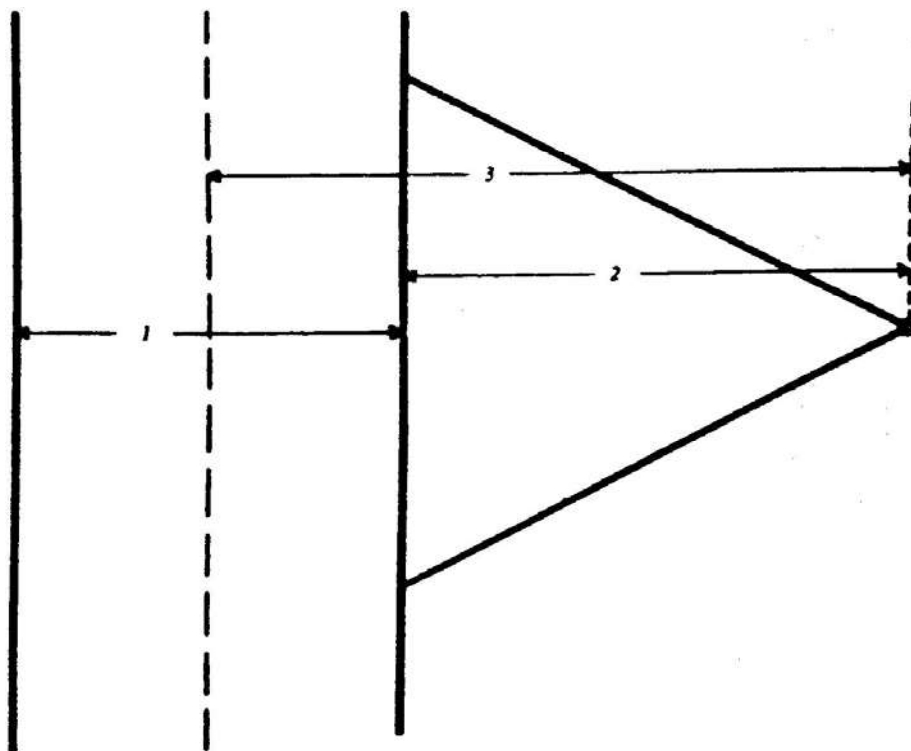
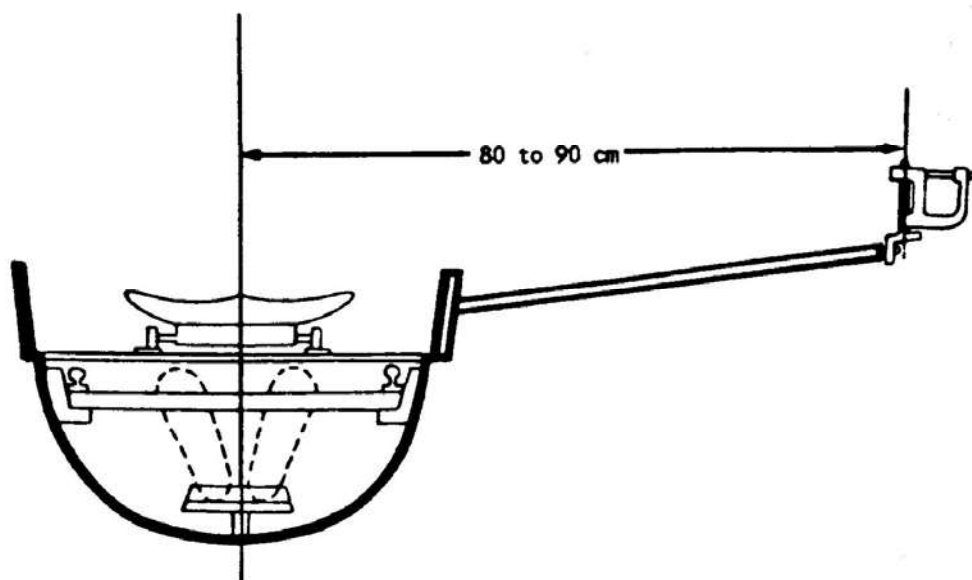

Figure 8 – Measuring the distance from the pin to the centre of the boat
Figure 9 – A standard measurement
- 1 Measure the width of the boat at the point perpendicular to the pin (see 1 in figure 8).
- 2 Determine the distance from the edge of the boat to the centre of the pin (see 2 in figure 8).
- 3 The result of measurement 2 added to one-half of measurement 1 will provide the measure of 3 (see figure 8) which is the distance of the pin from the centre of the boat. This distance is usually measured within the range of 80cm to 90cm (see figure 9).